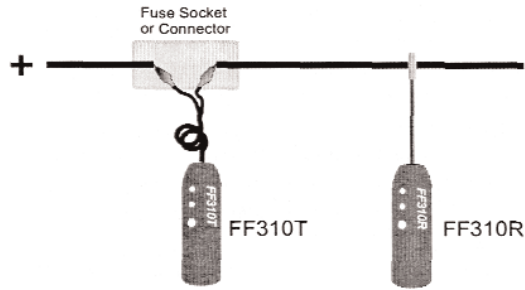
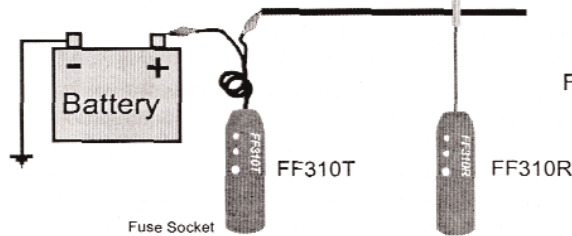

Fig.2 - Set up for tracing short or open circuits, or location of wiring
Fig.3 - Set up for tracing short and open circuits, or tracing wiring
- 6.2 Connect the FF310T (transmitter) in series with the short-circuited wire, making sure one of the unit's clips is connected to the circuit's positive supply (or connected to the negative for vehicles with positive supply connected to chassis). A fuse socket (in place of the blown fuse), connector, etc. provides a convenient place as shown in Fig.2 and Fig.3 in page 7.
- **Tracing wires downstream** (from supply to load): replacing the load for a full short circuit allows the FF310 to work at its maximum capabilities. Before proceeding remove all electrical power from the circuit, connect the FF310T in series with the wire to trace, short circuit the load to ground (refer to **Hook up reference chart** Fig.2 and 3), then reconnect power and follow instructions in section **6 – Locating short circuits**.
probe should be positioned as close as possible to the wires, in order to maximize the signal captured by the tracer, and set to a higher sensitivity level. For hook up instructions refer to the **Hook up reference chart** Fig. 2 and 3 in Page 6.
- 9.2 Connect the FF310T (transmitter) in series with the open ended wire, making sure one of the unit's clips is connected to the circuit's positive supply or ground. A fuse socket (with the fuse removed), connector, etc. provides a convenient place as shown in Fig. 2, 3, 4 and 5 of the **Hook up reference chart**.